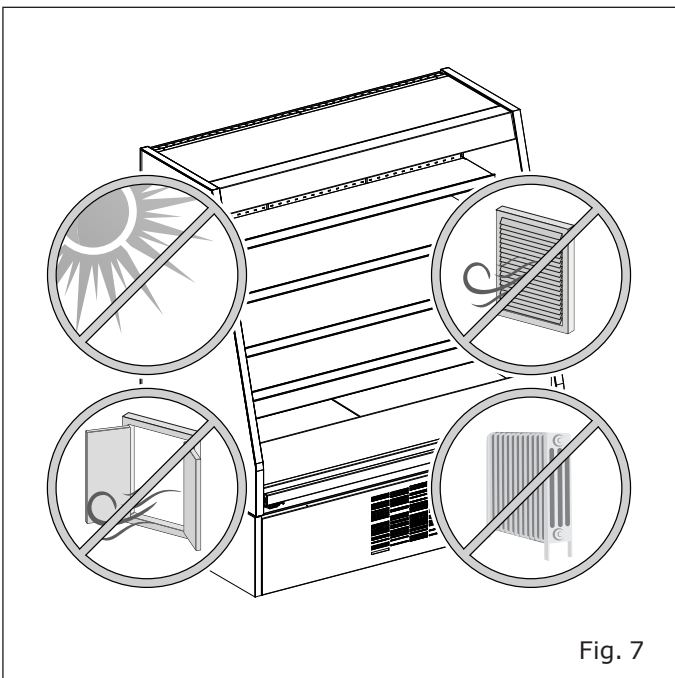

Fig. 7
- Far from heat sources, from the direct radiation of the sun, from doors, windows, fans and air vents ("Fig. 7").